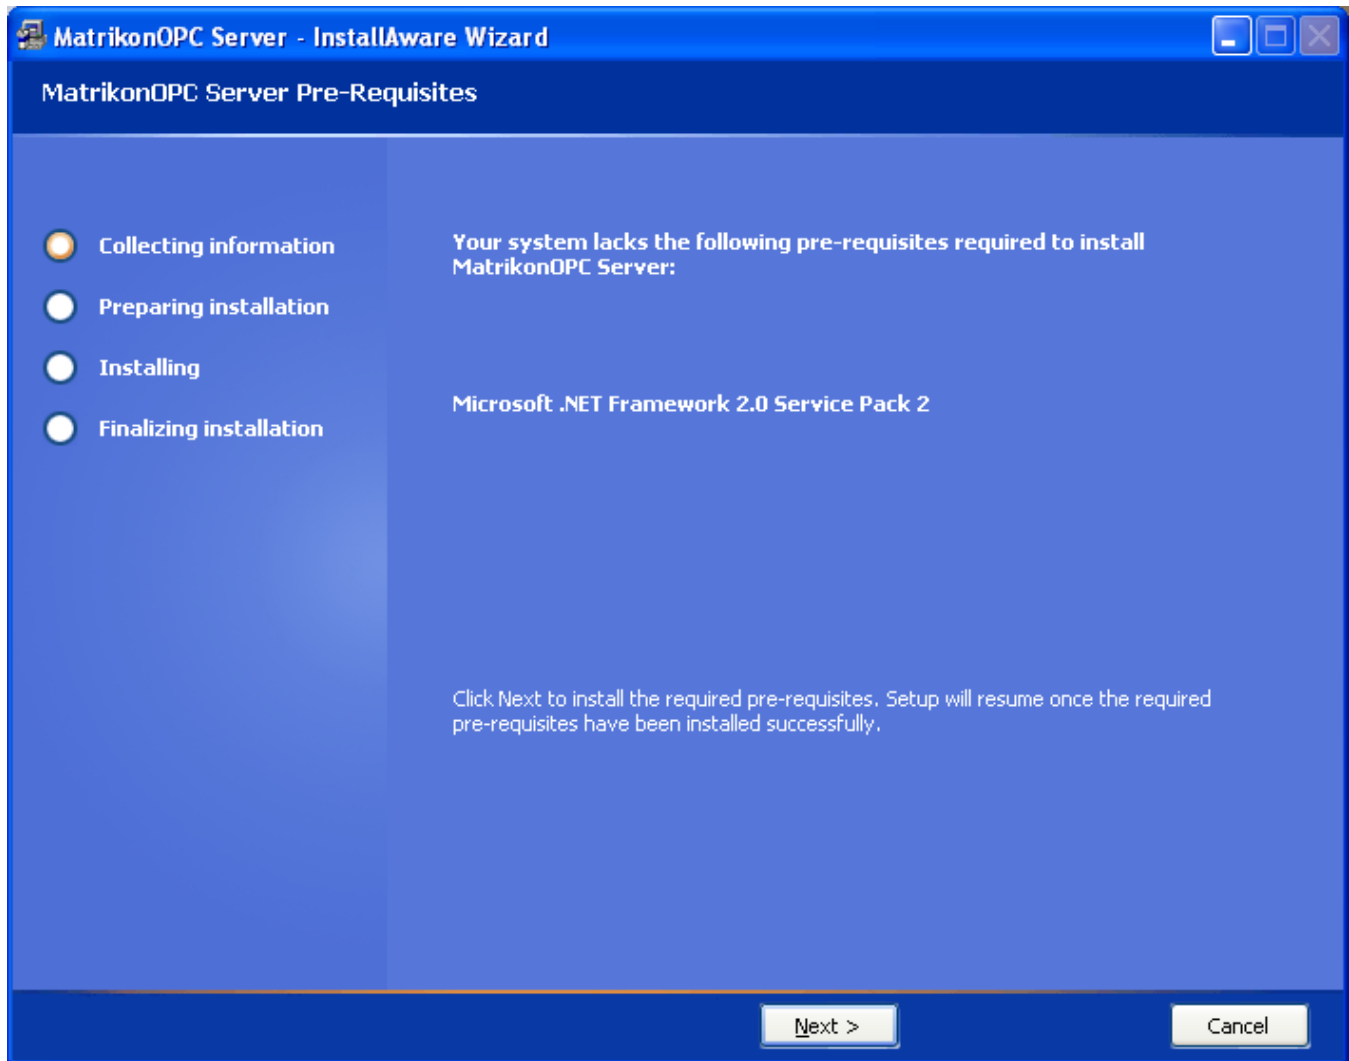
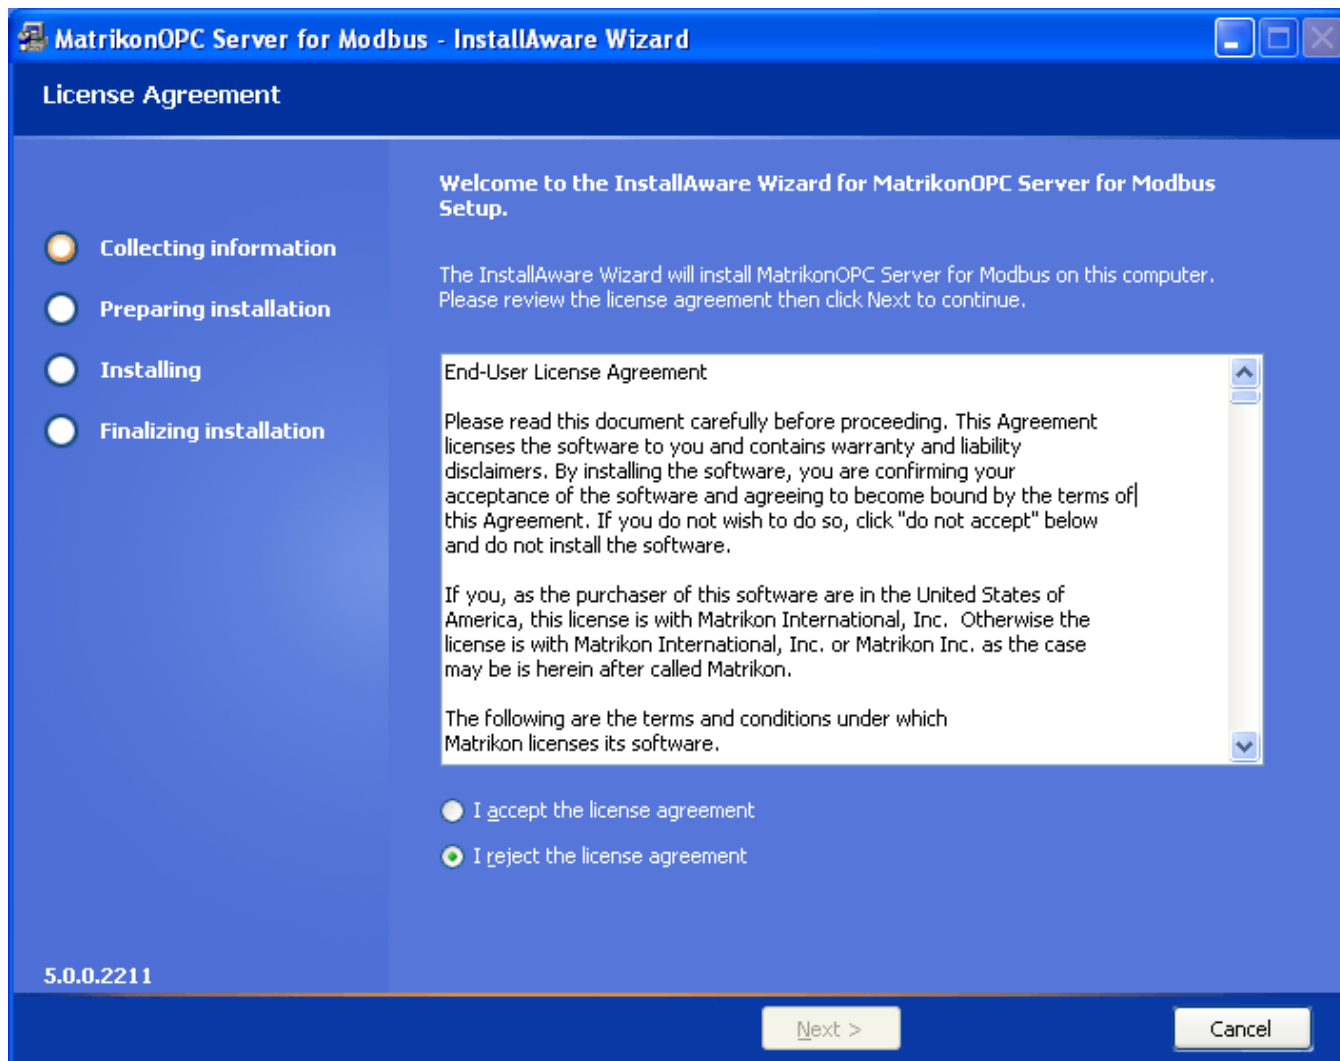

Figure 89 - Pre-Requisites Screen
Figure 90 - License Agreement Screen
3. Either a **Pre-Requisites** screen (Figure 89) appears, or you are taken directly to the **Licensing Agreement** (Figure 90) screen. If the **Licensing Agreement** screen is the displayed screen, go to step 5.
5. After all pre-requisites have been installed, the **License Agreement** screen (Figure 90) appears.